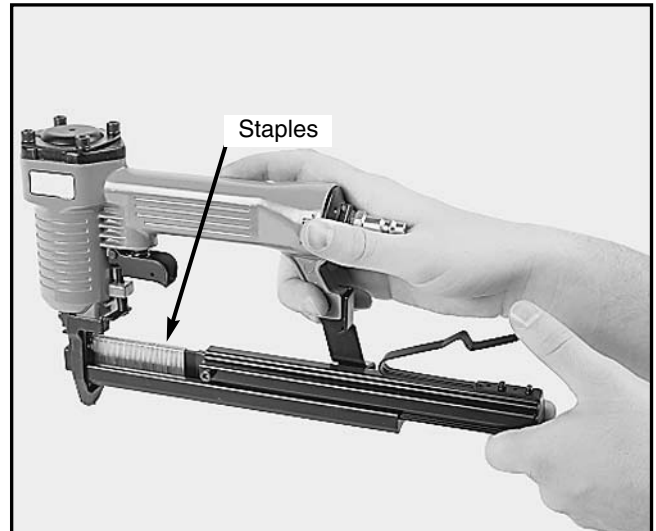

Figure 4. Staple placement.
3. Slide the magazine out and place the staples into the nailer. The staples will seat over the guide in the magazine. **Figure 4.**